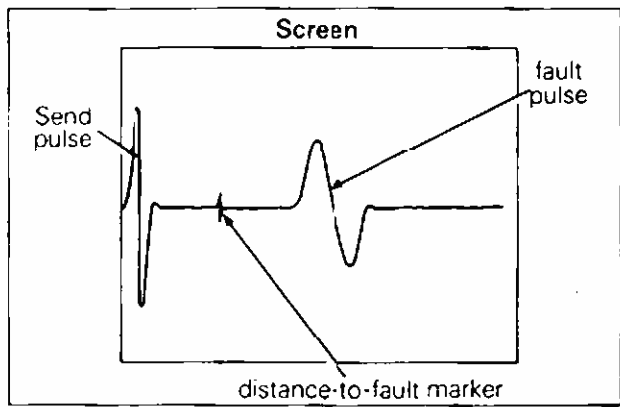

Fig. 5
- 4.3** Adjust 'Coarse Gain' control until fault pulse is clearly visible. (see Fig 5).